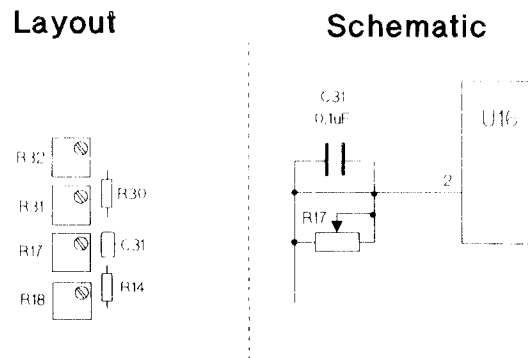

Figure B-2. C31
- Figure B-2 shows the location of C31 in the circuit and on the control board. Modify Figure 10.5-6 and Figure 10.5-8 accordingly.